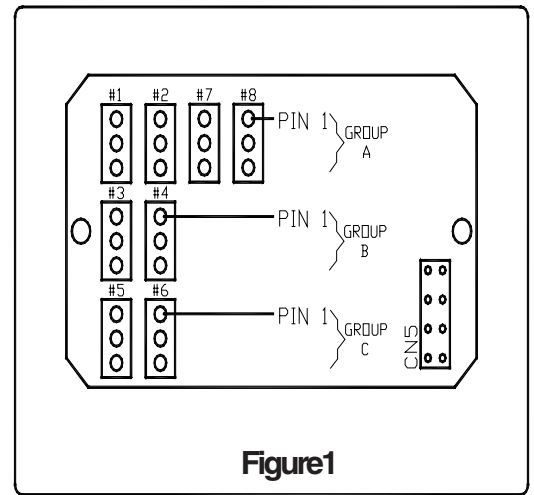

Figure1
7. Next, plug the other end of the cable into the Light Head Output Socket on the Flasher, see Figure 1.